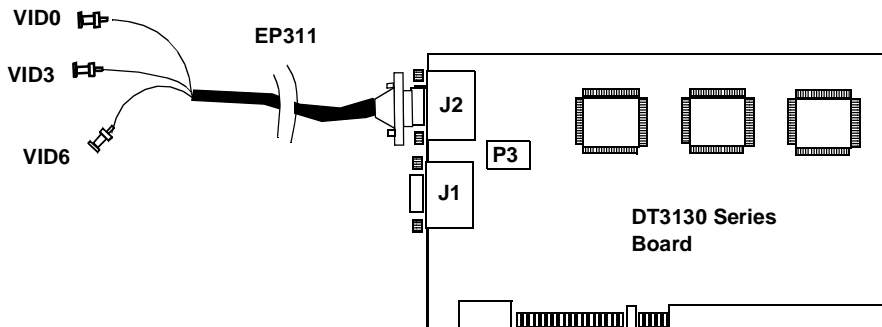

Figure 3: Connecting the EP311 Cable to Connector J2
1. After making sure power to the computer is off, push the 15-pin connector of a EP311 cable into the J2 socket at the rear of the DT3130 Series, as shown in Figure 3, then tighten the screws on the connector.